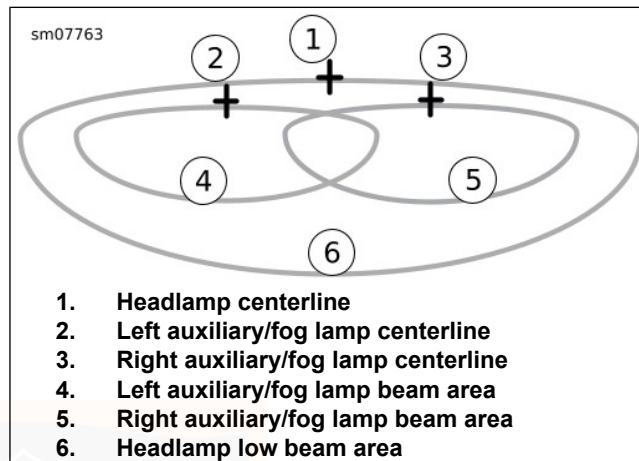

Figure 92. Headlamp Pattern: LED Type with Auxiliary/Fog Lamps
4. See Figure 92. Mark the auxiliary/fog lamp horizontal and vertical centerlines (2, 3) on the wall.
7. Turn on the headlamp low beam and cover both the headlamp and the right auxiliary/fog lamp. Adjust the left auxiliary/fog lamp so the entire high intensity zone (4) is below the centerline as shown in Figure 92.